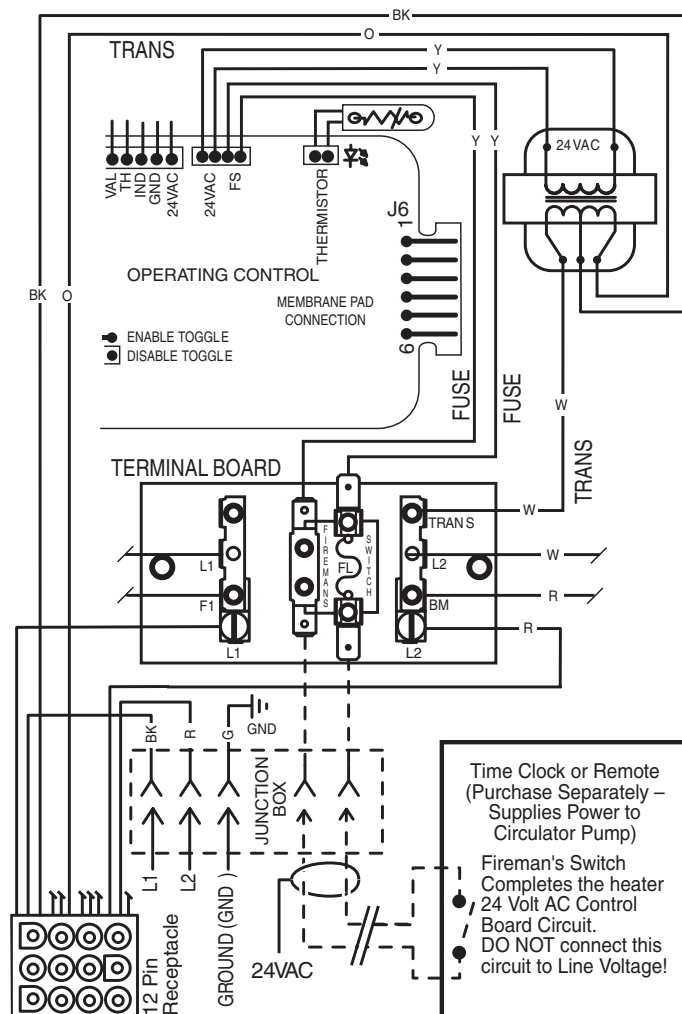

Figure 30.
- Connect wires between the Fireman's Switch terminals on the heater and the relay. Connect wires from the controller or timer to the Fireman's Switch. Controller, timer or relay should be sized to handle 24VAC at 0.5 Amp (because it will be completing the 24VAC control board circuit on the heater as shown in Figure 30). **DO NOT** apply line voltage to the Fireman's Switch terminals. Use 18 gauge wire with a minimum 3/64" (1.2mm) thick insulation rated for a temperature rise of at least 105°C.
- Connect wires between the control board terminals on the heater and the external relays, as shown in Figure 30. Use at least 2 relays per heater, to allow for an "OFF setting" on each heater mode. Select relays that can handle logic level switching. **DO NOT** apply line voltage to control board terminals.
- Move jumper (as shown on Figure 30) to enable external control and to disable the heater membrane pad's "Pool ON" and "Spa ON" buttons (the "OFF" key on the membrane pad remains functional).